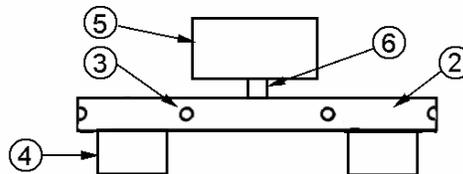
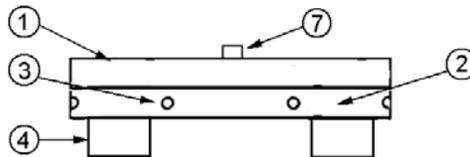

Figure 7: Illustration of the fixture using additional weights for increased load during grinding and polishing steps.
Figure 8: Schematic drawing showing the use of the Planarizing gage as additional load for the grinding and polishing steps.
For increased loading, several options are available for use with the Model 92005. Additional weights can be added to the top plate of the Model 92005 to increase the load applied to the mount (See Figure 7). Another option is to use the Tri-Holder Planarizing Gage. The gage can be placed on top of the fixture and used as an additional weight (See Figure 8). This provides stability with the weight distributed over the entire surface of the holder, as well as providing a smooth track ideal for the manual specimen yoke to rotate the fixture during grinding and lapping operations. A weight spacer can also be used to allow the use of weights coupled with the planarizing gage to increase the total load applied (See Figure 9).
7. Place the Planarizing Gage onto the Model 92005 fixture and secure with a set screw. This will act as an additional weight during the lapping procedure (See Figure 8).
For increased loading, several options are available for use with the Model 92006. Additional weights can be added to the top plate of the Model 92006 to increase the load applied to the mount (See Figure 7). Another option is to use the Quad-Holder Planarizing Gage. The gage can be placed on top of the fixture and used as an additional weight (See Figure 8). This provides stability with the weight distributed over the entire surface of the holder, as well as providing a smooth track ideal for the manual specimen yoke to rotate the fixture during grinding and lapping operations. A weight spacer can also be used to allow the use of weights coupled with the planarizing gage to increase the total load applied (See Figure 9).
7. Place the Planarizing Gage onto the Model 92006 fixture and secure with a set screw. This will act as an additional weight during the lapping procedure (See Figure 8).